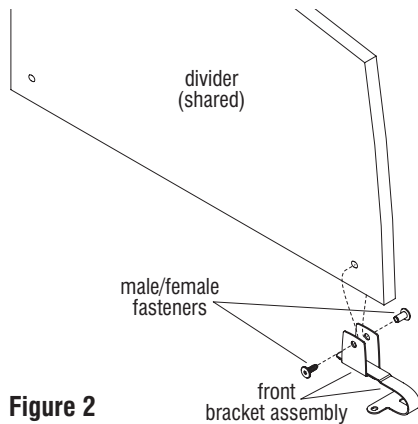

Figure 2
2. Next, install the front bracket assembly to a divider which will be shared. Secure the bracket to the divider using a set of male and female fasteners as illustrated. Tighten with Torx driver (Figure 2).